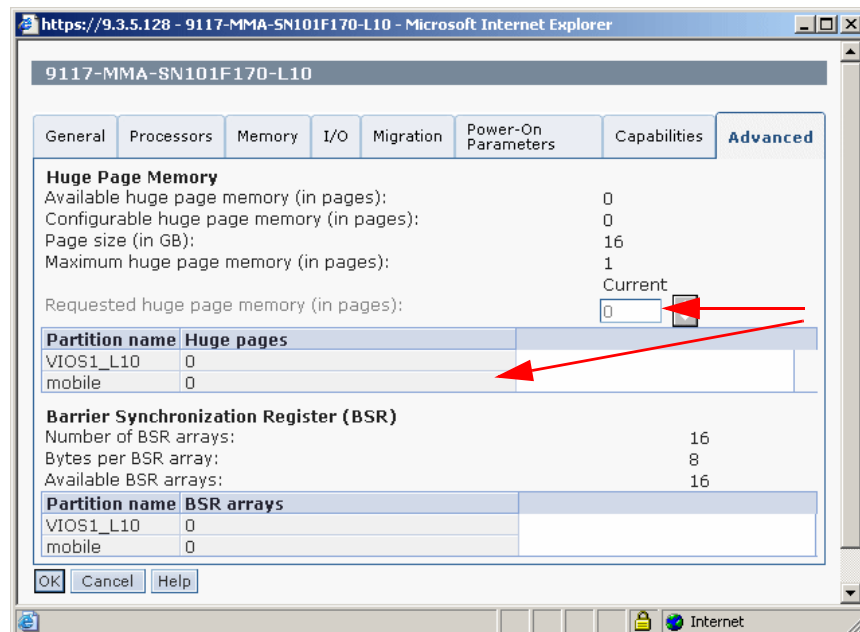

Figure 17-17 Checking if huge page memory equals zero
- If the current huge page memory equals zero (0), shown in Figure 17-17, skip the remaining steps of this procedure and continue with additional preparatory tasks for the mobile partition.